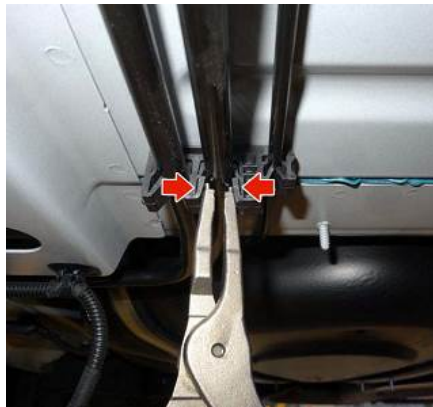

Fig.18
19. With snap ring pliers, loosen the clamps and remove the remaining sections of the fuel delivery line. (Fig.18)